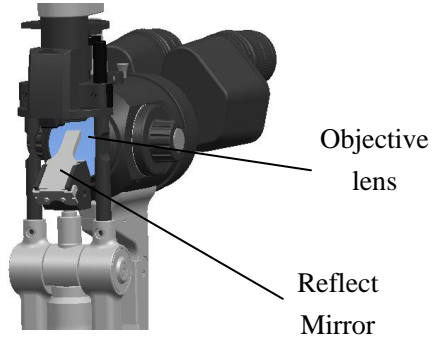

Figure 4.1.1
1. Cleaning the lens and mirror: If dust adheres to the lens or mirror, gently wipe it off with soft cotton dampened with absolute alcohol (see Figure 4.1.1).